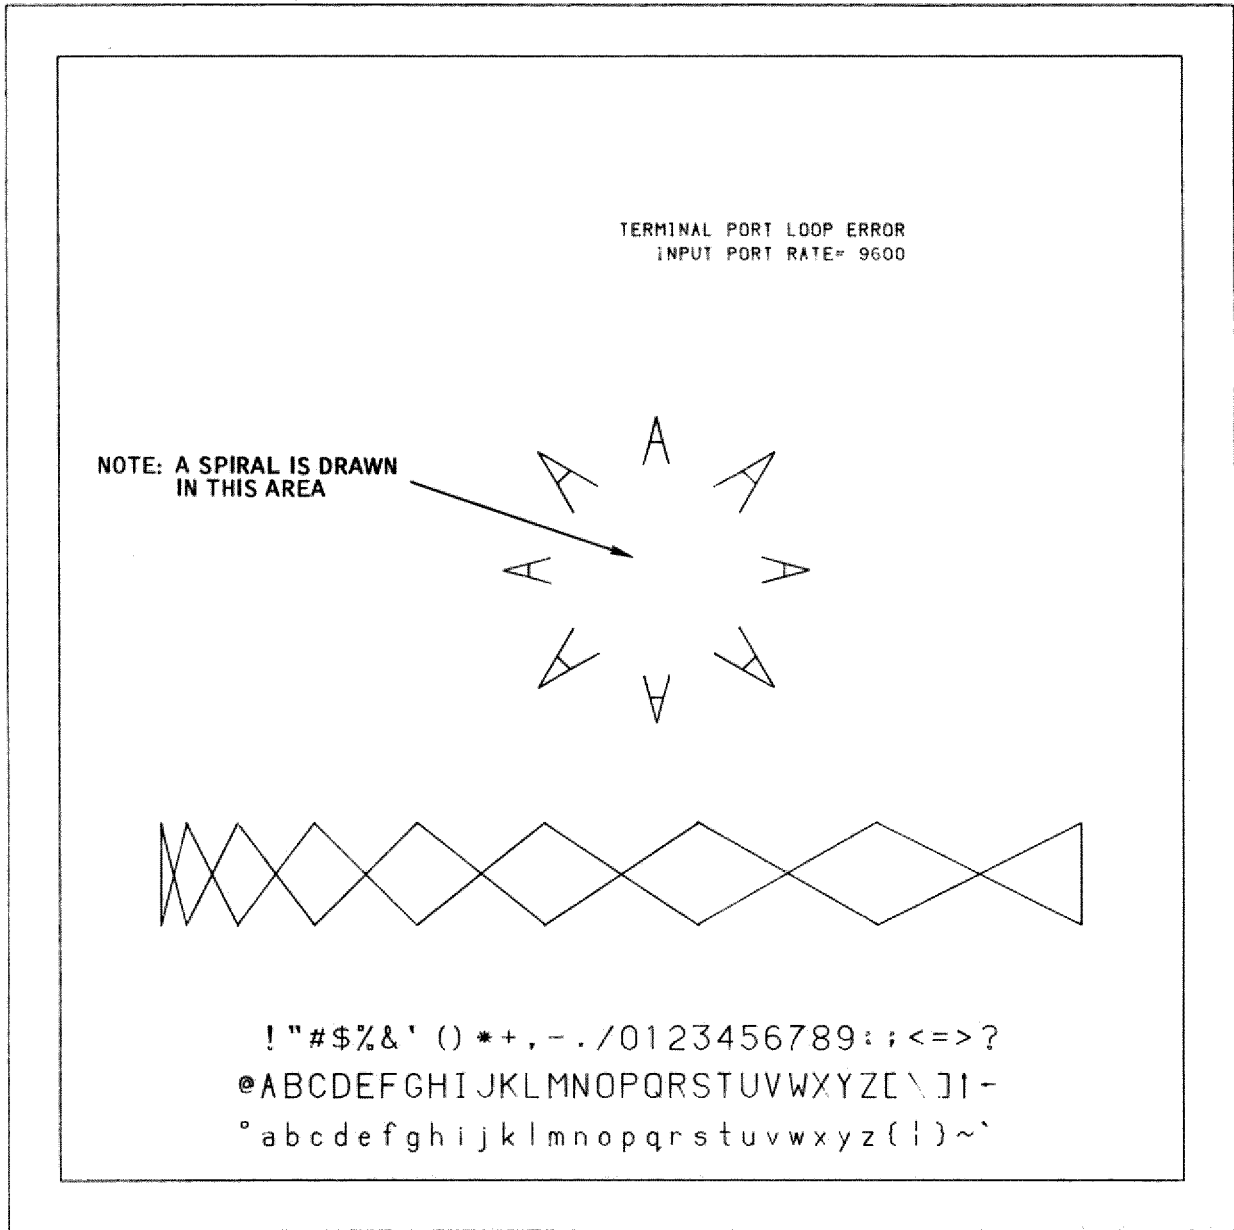

Figure 4. Confidence Test Plot
5. Release TEST switch. The plotter will now draw the test plot (see Figure 4).